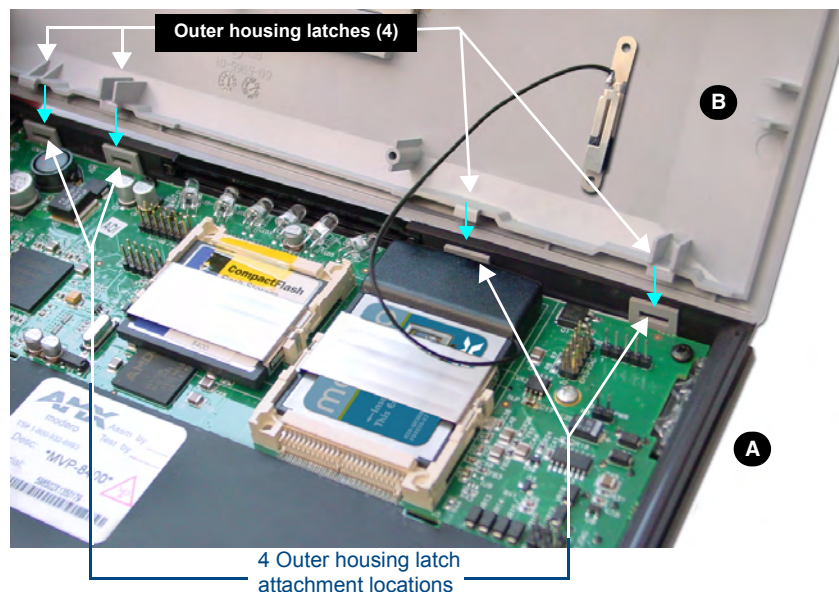

FIG. 12 Outer housing latch attachment locations
1. Reinstall the dark grey trim along the top rim of the board (**A** in FIG. 12).
2. While angling the top rim of the MVP's rear outer housing (**B** in FIG. 12) down toward the IR Emitters, insert the four outer housing latches into their corresponding attachment locations along the top rim of the MVP panel (two on either side of the IR Emitters).